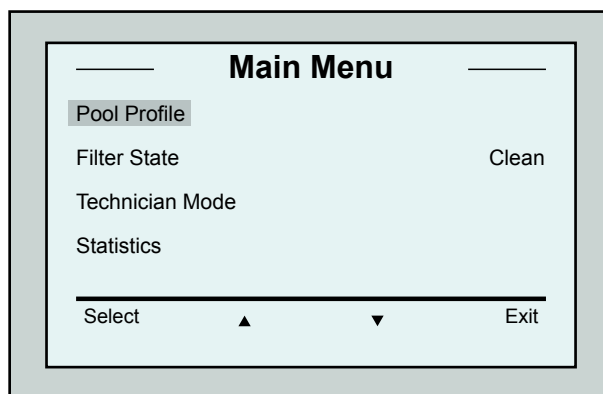

Figure 6: Main Menu screen
The Dolphin Wave robot is designed to handle 4 different swimming pool configurations and when these are set, the pool configurations are stored in the MMI's memory. The robot is preset in the factory with specific default pool settings, which can be reset. Please refer to the first *Main Menu* screen, Figure 6 and Customized Settings, page 7.
2. Press **Menu** to enter the *Main Menu* (Figure 6).